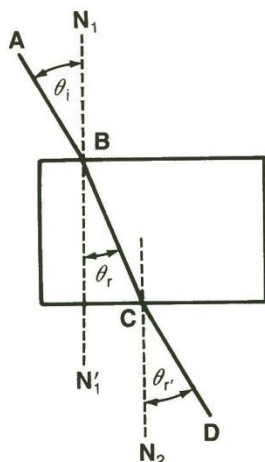
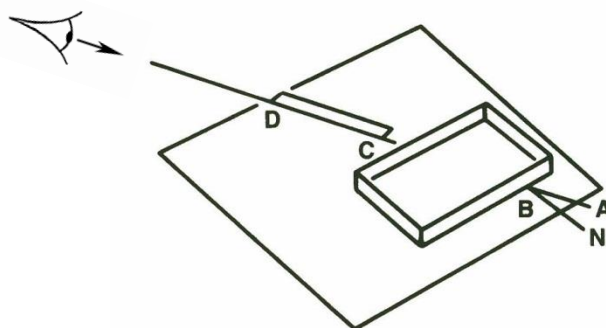

Figure 1: Construct normal lines at points **B** and **C**.
Figure 2: Sight through the glass or plastic and align the ruler with line **AB**.
2. Remove the glass plate and construct a normal $\mathbf{N_1B}$ at the top left of the outline, as shown in Figure 1 on the next page.
4. Replace the glass plate over the outline on the paper. With your eyes on a level with the glass plate, sight along the edge of the glass plate opposite the line \mathbf{AB} until you locate the heavy line through the glass as shown in Figure 2. Sight your ruler at the line until its edge appears to be a continuation of the line. **DO NOT MOVE THE GLASS!** Draw the line \mathbf{CD} as shown in Figure 1.